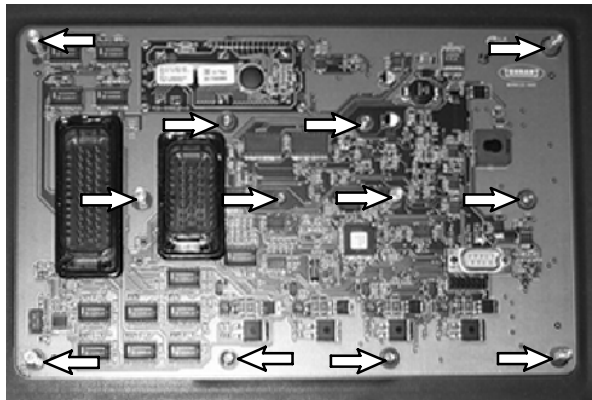

FIG. 2
- Remove the six fasteners, six standoffs, and twelve nylon washers holding the circuit board to the panel assembly. Set the fasteners, standoffs, nylon washers, and circuit board aside. Refer to Fig. 2.
- Remove the twelve aluminum spacers from the instrument panel label. Set the spacers aside. Discard the old instrument panel label. Refer to Fig. 2.
- Set the new instrument panel label (1) face down on a smooth clean surface and place the aluminum spacers onto the new instrument panel label. Refer to Fig. 2.
- Place the circuit board onto the aluminum spacers on the instrument panel label (1) and use the saved fasteners, standoffs, and nylon washers to secure the circuit board to the instrument panel label. Refer to Fig. 2.